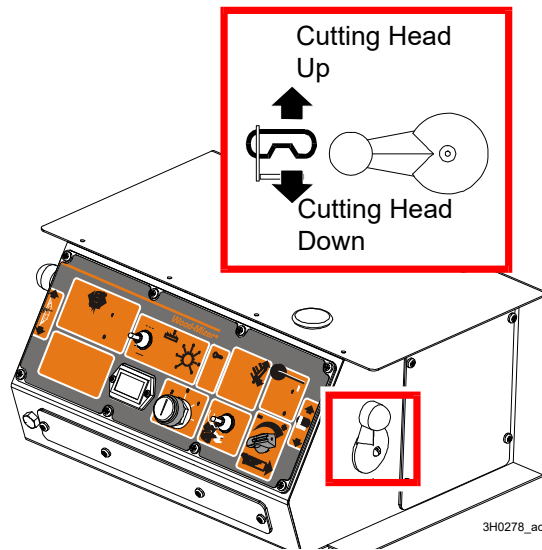

FIG. 2-22.
**See Figure 2-22.** The up/down switch is located on the far right side of the control panel. Push the switch up to raise the cutting head; push the switch down to lower the cutting head. Hold the switch